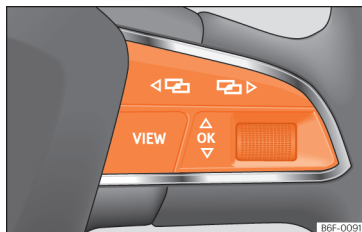

Fig. 79 Right side of the multifunction steering wheel: buttons to the menus and information displays on the instrument panel.
As long as a priority 1 »» page 74 warning is active, it will not be possible to access any menu. Some warnings can be confirmed and hidden with the button (OK) of the multifunction steering wheel »» Fig. 79.
- If a message or vehicle symbol is displayed, press the button (OK) »» Fig. 79; if necessary, several times.
- To change menus, use buttons (left arrow) or (right arrow) »» Fig. 79.
- To open the menu or the information displayed, press the button (OK) »» Fig. 79 or wait
- In the menu displayed, turn the right thumb-wheel of the multifunction steering wheel »» Fig. 79 until the desired option of the menu is highlighted. The option appears framed.
- Press the button (OK) »» Fig. 79 to make the required modifications. A mark indicates that the system or function is activated.
Press the button (left arrow) or (right arrow) »» Fig. 79.